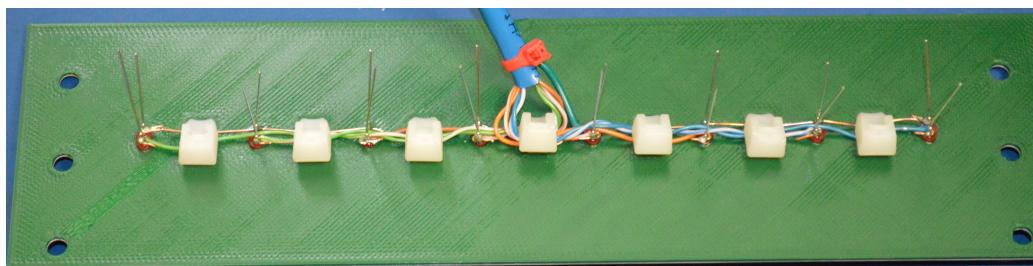

Figure 2.18: The Completed Panel
- Find a place to solder the ground/return wire from the connector to the bare LED ground/return wire. See Figure 2.18.
- Complete the other side of the panel. See Figure 2.18.